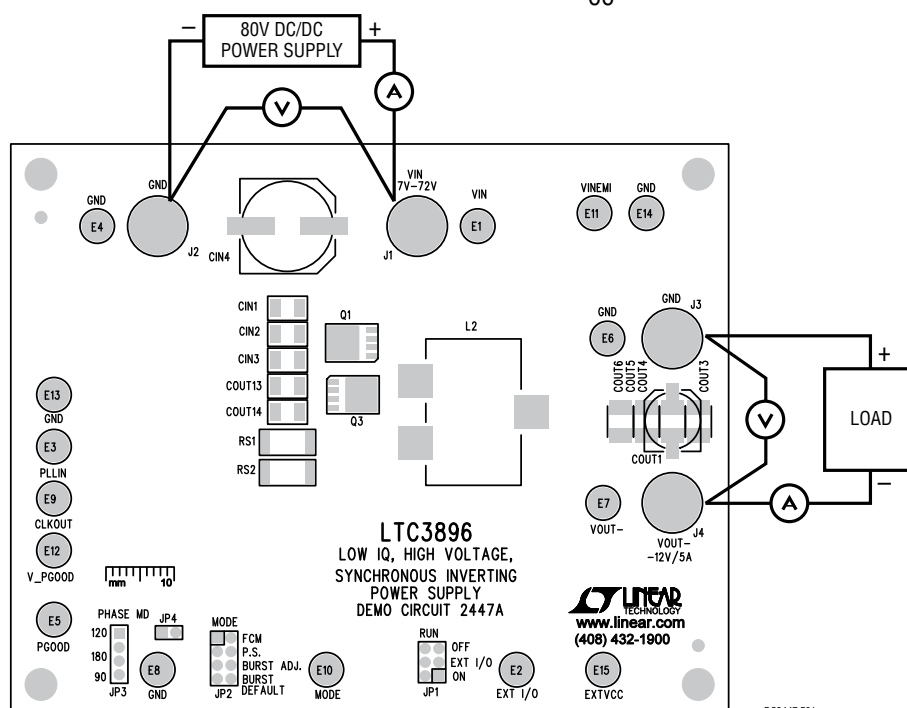

Figure 1. Proper Measurement Equipment Setup
Demonstration circuit 2447A is easy to set up to evaluate the performance of the LTC3896. For proper measurement equipment configuration, set up the circuit according to the diagram in Figure 1. Before proceeding to test, insert shunt into JP1 (RUN) into OFF position, which connects the RUN pin to ground (GND) and shuts down the output. Set jumper JP2 (MODE) into the FCM (Forced Continuous Conduction Mode) position.
1. With the DC2447A set up according to the proper measurement and equipment in Figure 1, apply 16V at V_{IN} . Measure V_{OUT-} ; it should read 0V. If desired, one can measure the shutdown supply current at this point. The supply current will be approximately 12 μ A, or less, in shutdown.